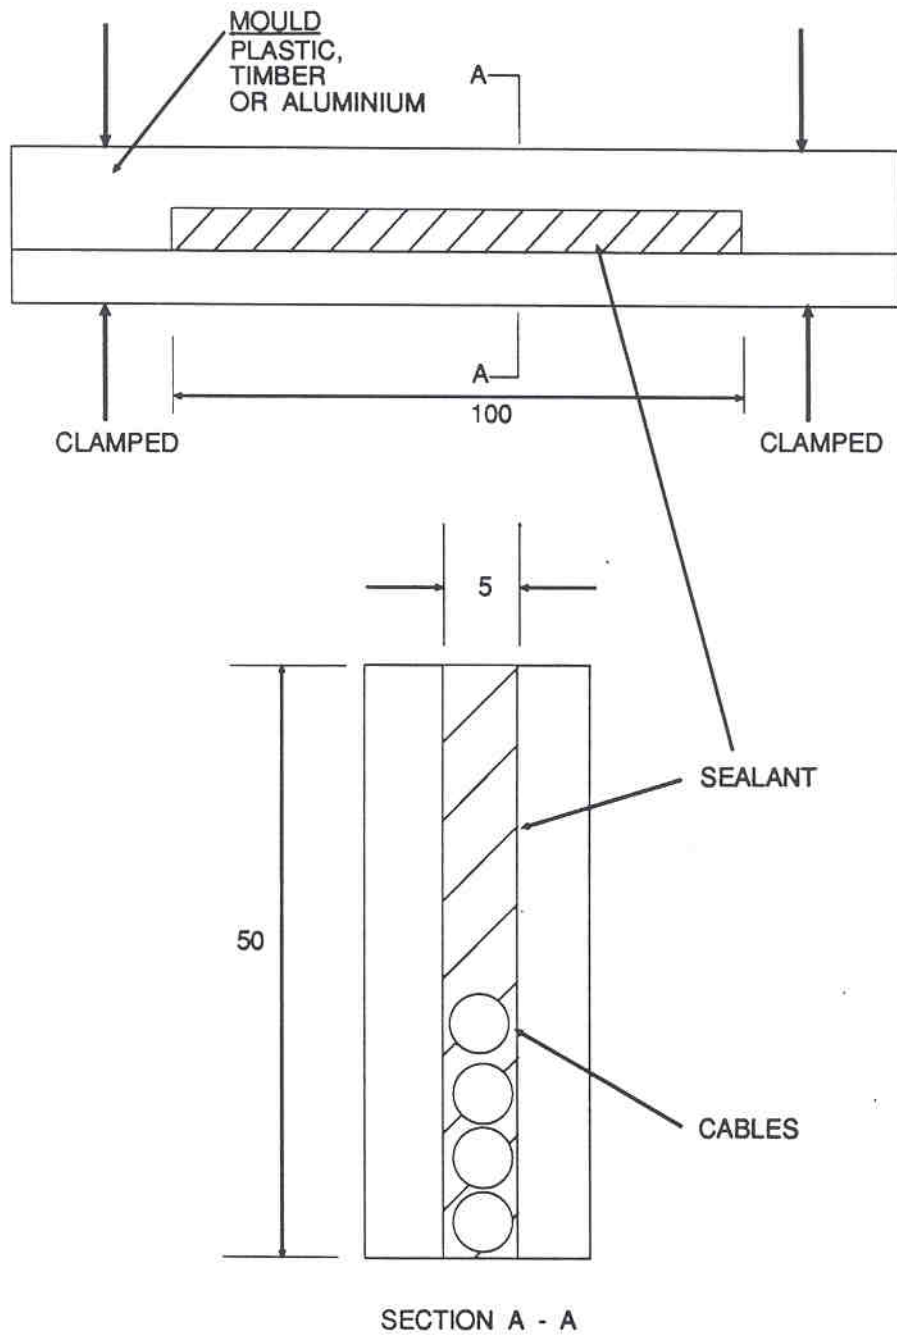

FIGURE 1
- (a) Encapsulation mould as detailed in fig. 1.